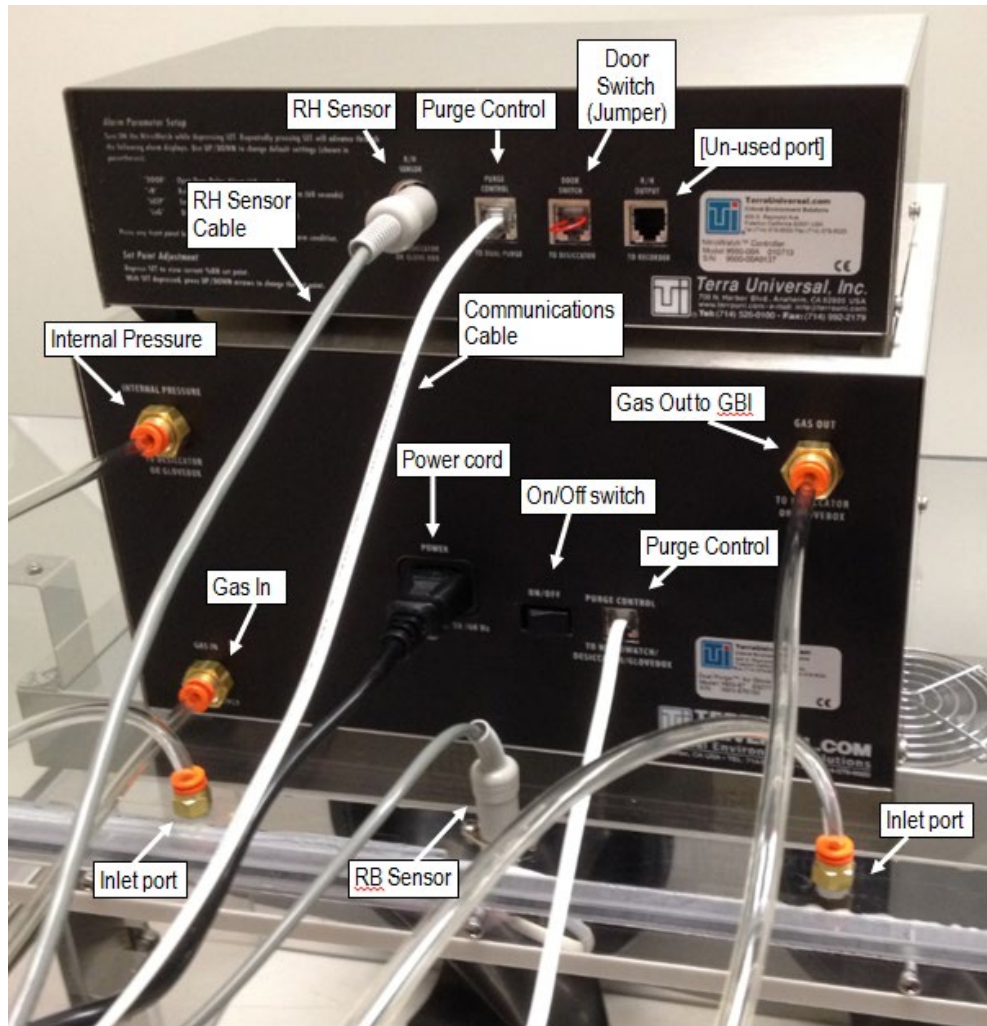

Figure 4: Rear of Dual Purge and NitroWatch Systems showing ports and connections.
9. From the "Internal Pressure" port of your Dual Purge, run another length of 1/4" poly tubing to the other fitting on your glove box. See Figure 4 below for connection locations.
12. Connect your in-house gas supply to the "Gas In" port on the rear panel of the Dual Purge System via ¼" poly tubing. Refer to Figure 4 on how to operate the fittings.
- One (1) 5-ft low-voltage communications cable (included w/ NitroWatch)
2. Connect the NitroWatch control module to the Dual Purge System with the supplied low-voltage communications cable. This cable will run from the "Purge Control" communications port on the NitroWatch to the "Purge Control" communications port on the Dual Purge System. Connect the RH Sensor cable's round DIN connector to "R/H Sensor" port on the NitroWatch. Refer to Figure 4 for connections.